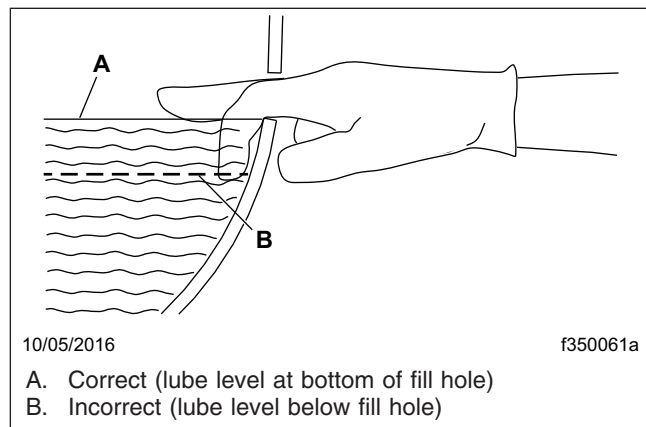

Fig. 2, Axle Lubricant Level Inspection
- 5.1 Fill the axle through the oil fill hole. Lubricant should be level with the bottom of the oil fill hole. To check fluid level, see **Fig. 2**.
- 8.1 Using recommended lubricant, fill the axle through the oil fill hole or standpipe opening. Lubricant should be level with the bottom of the oil fill hole (see **Fig. 2**) or top of the standpipe opening.